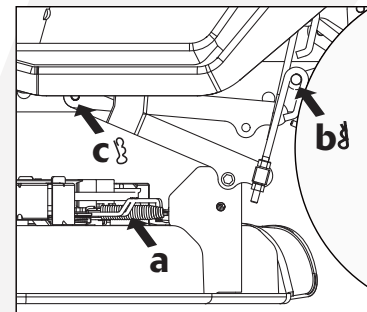
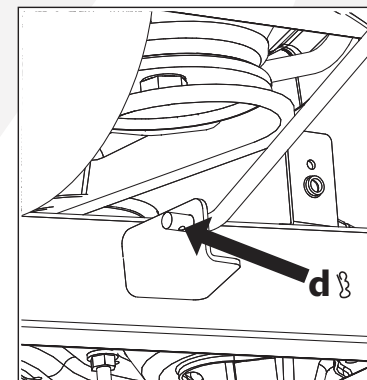

Fig. 26
Fig. 27
4. Disconnect the cable spring (a, Fig. 26) that connects the deck to the tractor.
5. Remove the 5 hitch pins, 2 on the left (b and c, Fig. 26), 2 on the right (the same position as shown on left), and 1 on the front (d, Fig. 27) that secure the deck in place.